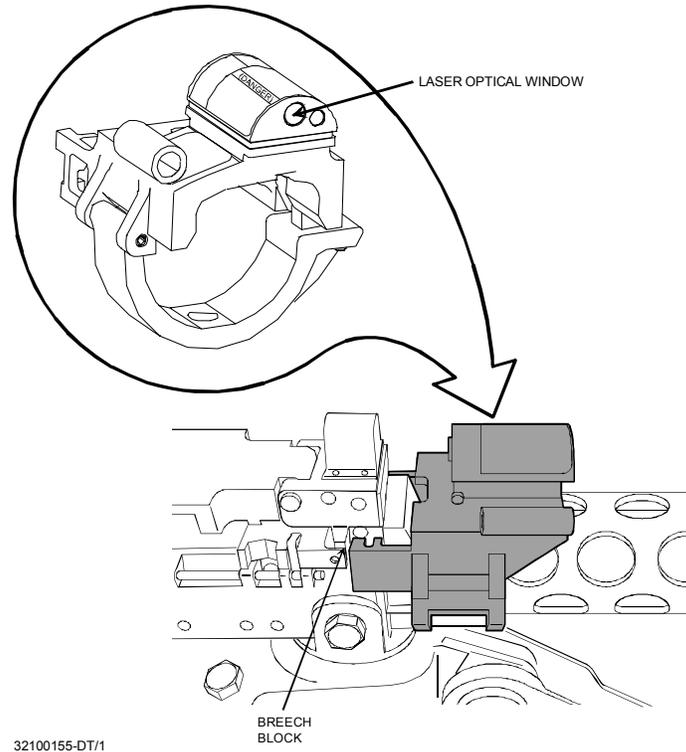

Figure 2-10. M2 SAT.
2.3.1.3.4 M2 SAT Installation. (See Figure 2-10.)